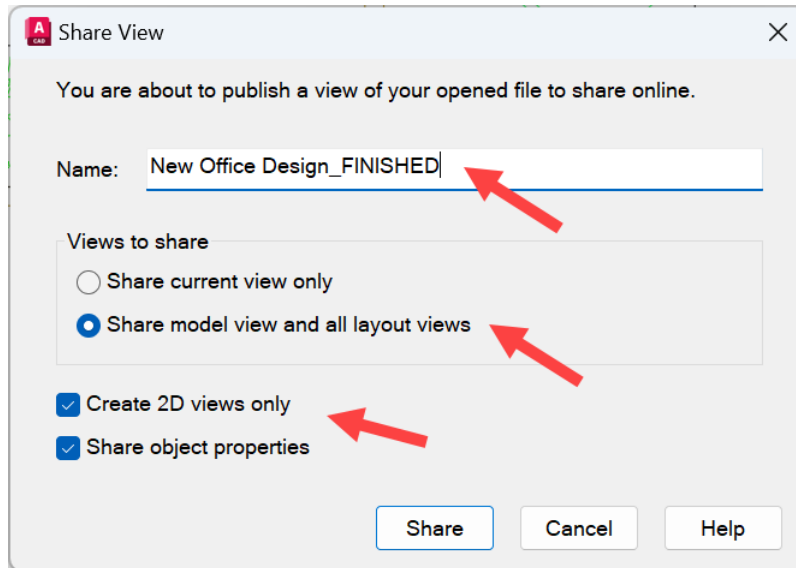

Figure 13.18: The Share View dialog box
4. The **Share View** dialog box will appear, as shown in *Figure 13.18*.